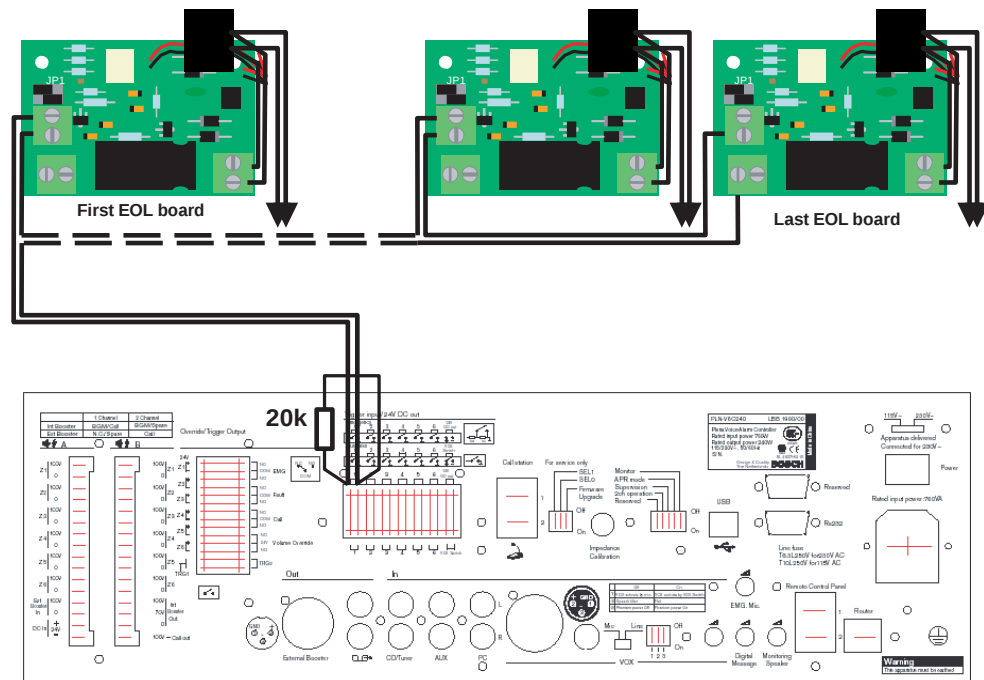

Figure 4.5 Trigger input indication
4. Connect the EOL boards to the Trigger input as indicated in *Figure 4.5*. This input should be on the Controller or Router to which the loudspeaker lines it supervises are also connected